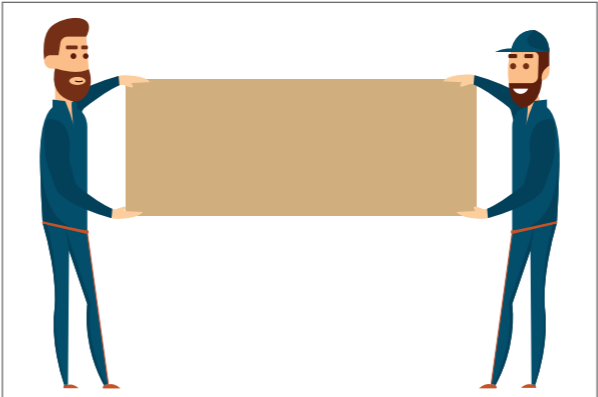

Fig. 1
- 2. Always carry your benchtop on edge (never flat) (see Fig. 1).